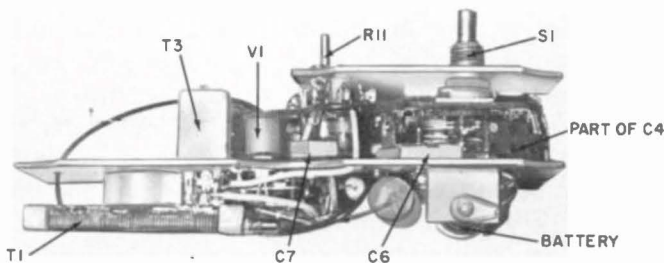

Fig. 411. The electronic compass takes advantage of the sharp directional characteristic of a ferrite loop antenna.
A compact, flat ferrite loop antenna (T1, shown in Fig. 411) provides the directional properties needed for taking bearings on radio stations. It is mounted parallel to the length of the case to obtain the null point when the long axis of the receiver is in line with the station. The antenna has a high Q (in the region from 450 to 790 kc) for maximum selectivity and sensitivity. A matching two-gang tuning capacitor (T) tunes the antenna and local oscillator coil over the band.